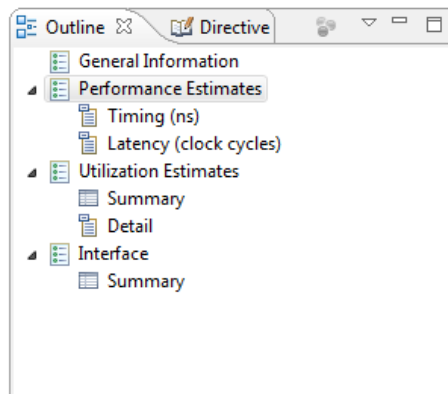

Figure 2.22: Information pane with synthesis report
2. In the **Outline** tab click **Performance Estimates** option, see Figure 2.22.
3. In the **Outline** tab click **Utilization Estimates** option, see Figure 2.22.
4. In the **Outline** tab click **Interface** option, see Figure 2.22.